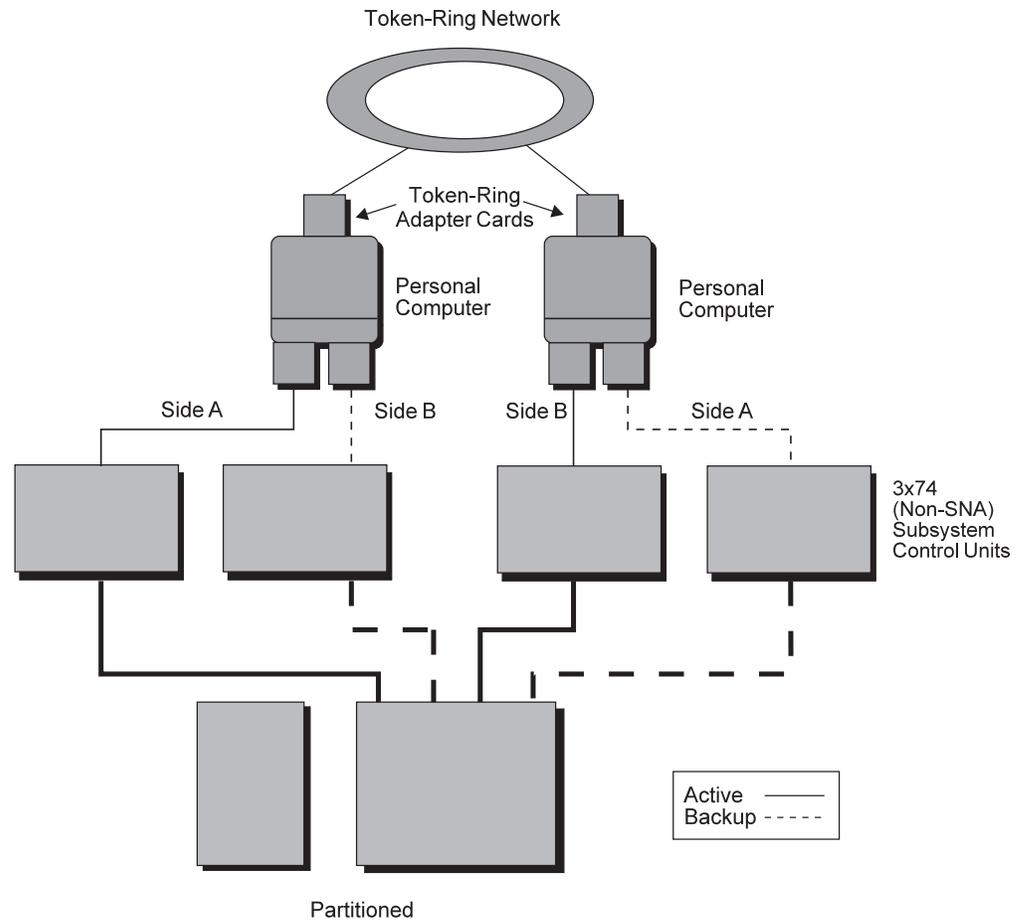

Figure 32. Partitioned Operator Console Connections with Backup
**Physically Partitioned Processor Operator Console Connection with Backup:** Figure 32 on page 83 shows the operator console connections to a physically partitioned processor.